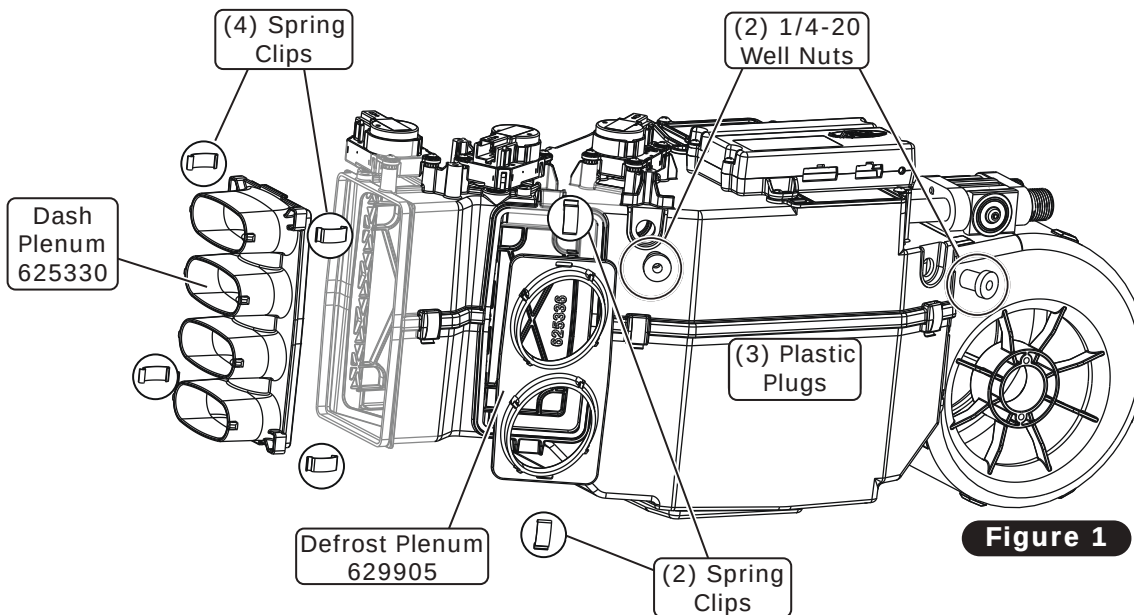

Figure 1
2. Insert (2) 1/4-20 well nuts at the locations shown in Figure 1, below.